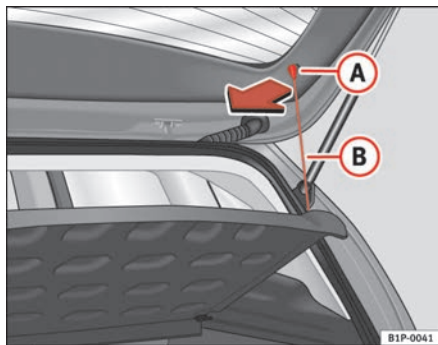

Fig. 106 Stowage tray
- Unhook the loops ⇒ fig. 106 **B** from housings **A**.